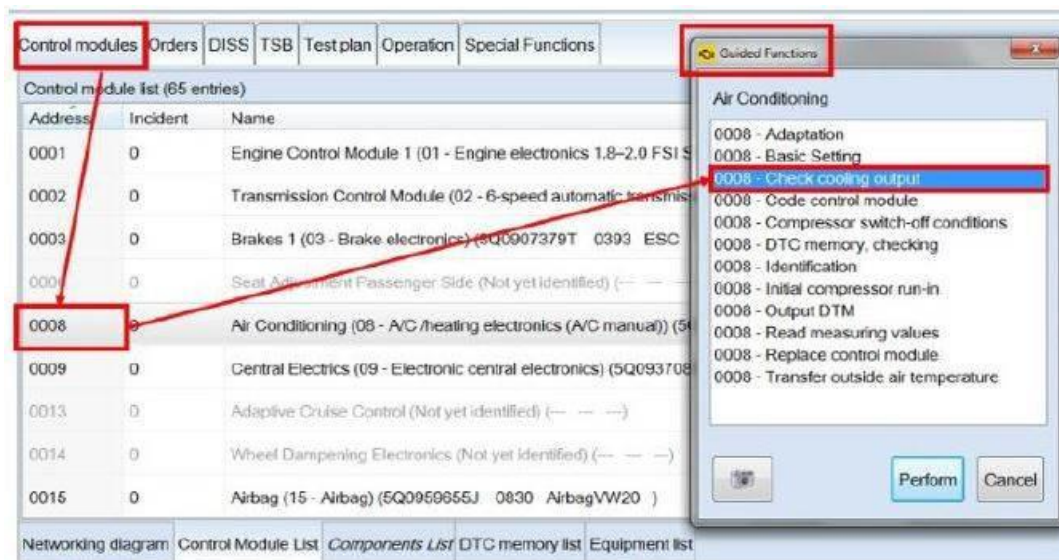

Figure 1: AC Performance test CC, Tiguan, Golf, Golf SportWagen, Jetta SportWagen, Jetta, New Beetle, NBC
- Select Check cooling performance from the Guided functions menu and select perform (Figure 1).